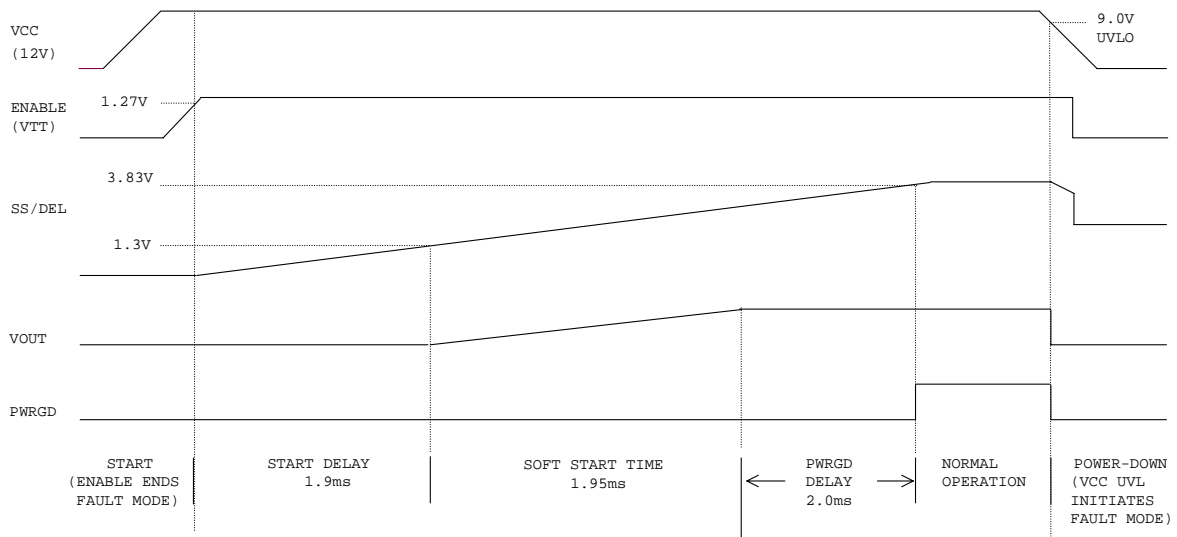

Figure 10 – Start-up Waveforms
The IR3082 has a programmable soft-start function to limit the surge current during the converter start-up. A capacitor connected between the SS/DEL and LGND pins controls soft start as well as over-current protection delay and hiccup mode timing. A charge current of 66 μ A and discharge current of 6 μ A control the up slope and down slope of the voltage at the SS/DEL pin respectively. Soft start-up waveforms are shown in Figure 10.
The SS/DEL pin voltage controls the slew rate of the converter output voltage, as shown in Figure 10. After the ENABLE pin voltage rises above 1.23V, there is a soft-start delay time t_{SSDEL} , after which the error amplifier output is released to allow the soft start. The soft start time t_{SS} represents the time during which the output voltage rises from zero to V_o . t_{SS} can be programmed by an external capacitor, which is determined by Equation (1).